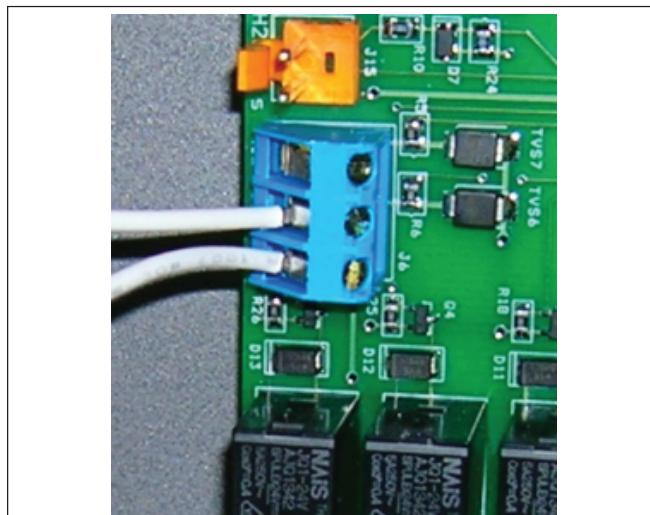

Figure 26. AquaLink RS® or Remote TSTAT Connection (2-Wire Connection)
4. Connect the wiring from the pool/spa control system to the heater remote control terminal. See Figure 26.